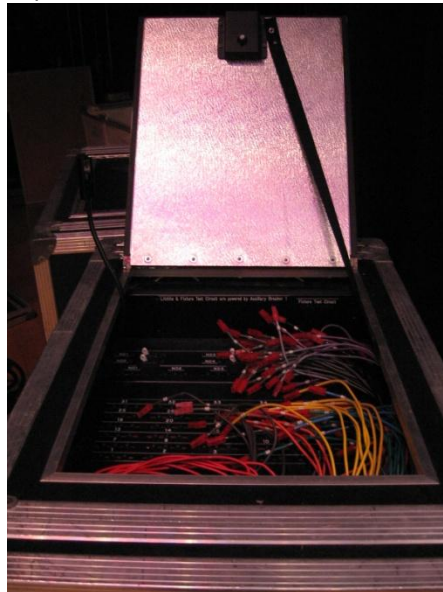

Figure 21 - Patch bay located in a panel on the top of a dimmer
- Some of our dimmers have it located on the top of the dimmer (see Figure 21), some on the side, and some have digital patching. The following assumes that you aren't using a digital dimmer.